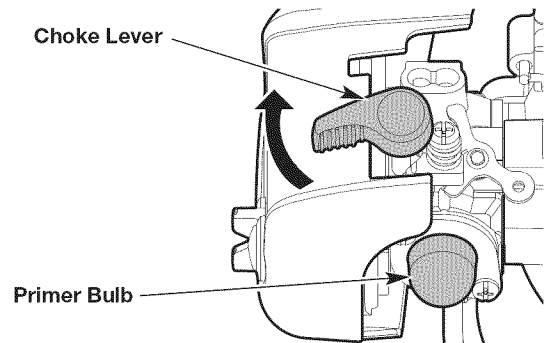

Fig. 10
3. Slowly press and release the primer bulb **10 times** (Fig. 10). If fuel cannot be seen in the primer bulb, press and release the primer bulb until fuel is visible.
4. **DO NOT** squeeze the throttle control. Flip the choke lever clockwise until it clicks (Fig. 10).